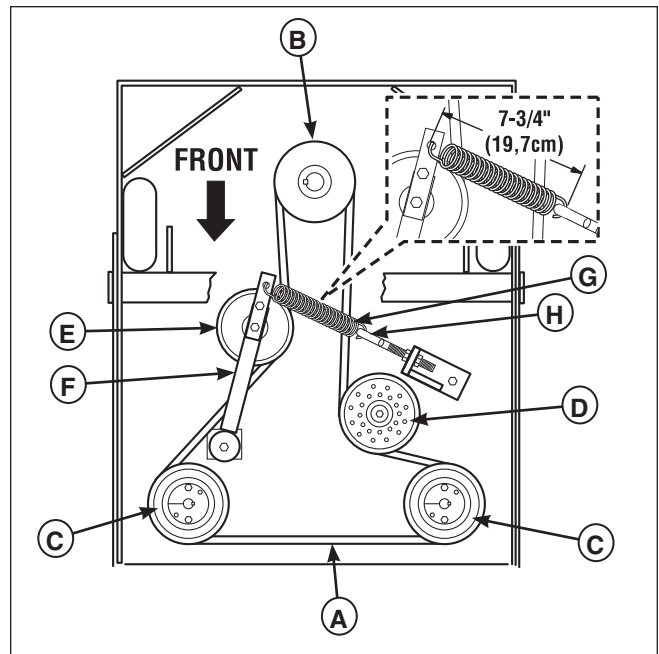

**Figure 38. Mower Deck Washout Port**
3. Attach the quick disconnect (A, Figure 38) to the garden hose (B) and connect to the washout port (C) on the mower deck. Turn the water on high.